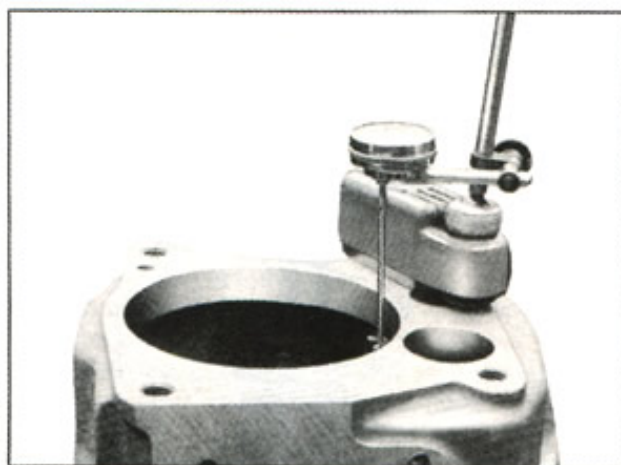

Fig. 17—Checking Countergear End Play
5. Attach a dial indicator as shown in Figure 17 and check end play of the countergear. If end play is greater than .025" new thrust washers must be installed.